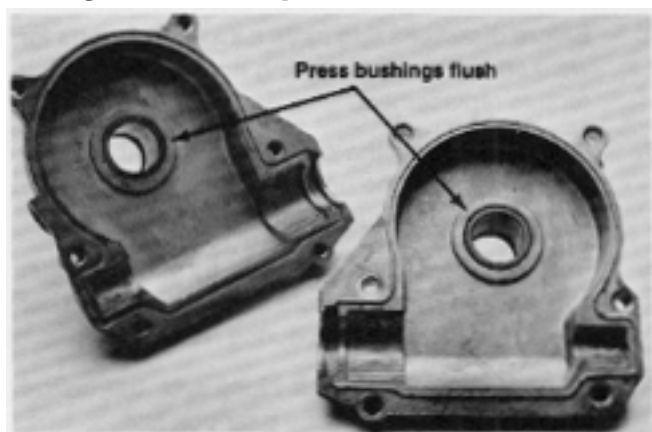

Figure 92
1. Press new auger shaft bushings into the gear case halves using an arbor press. Press them in until they are flush with the inside flange on the gearcase. See Figure 92.